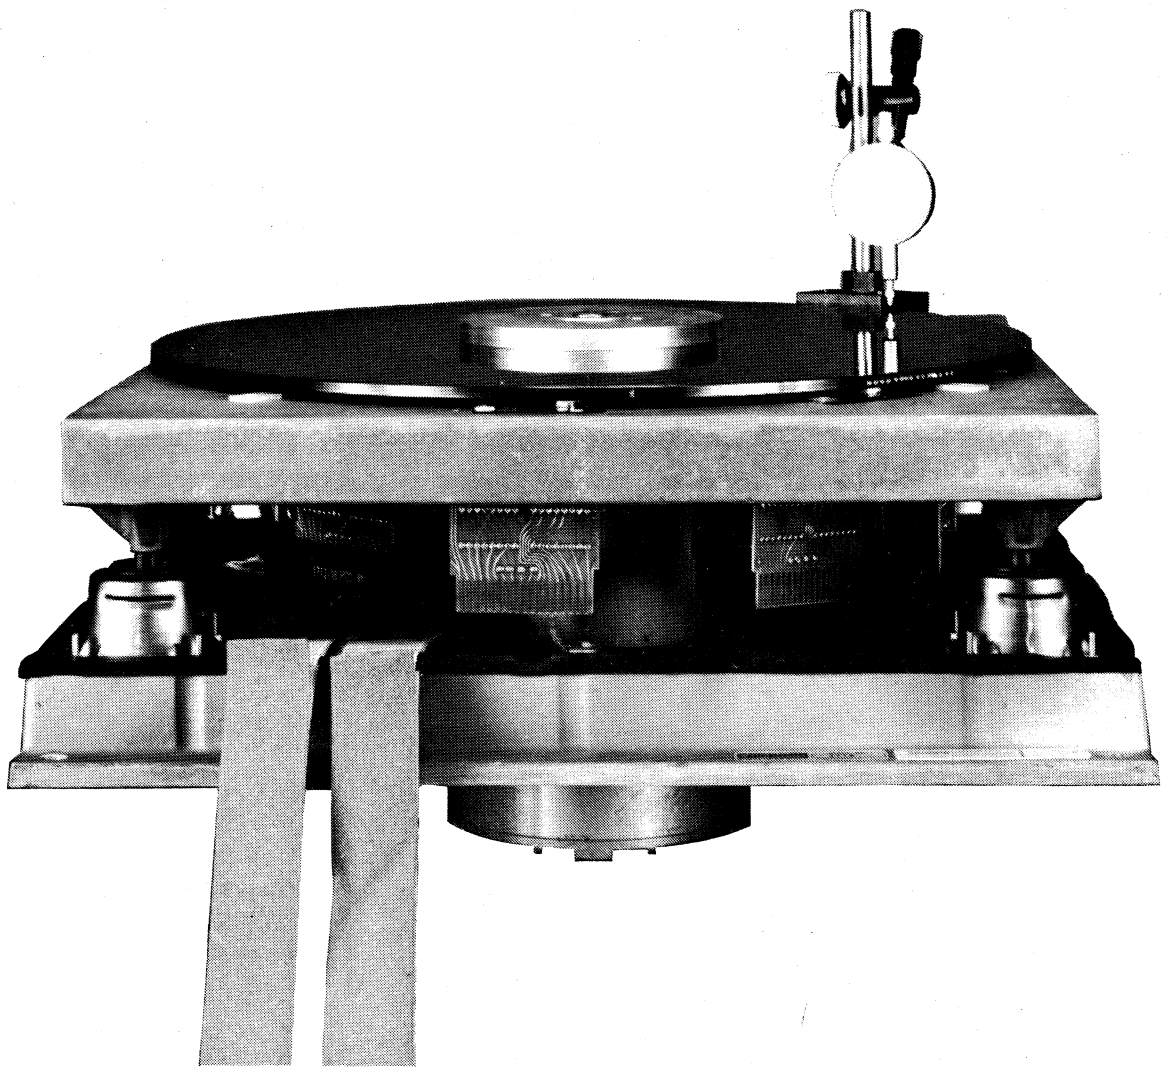

Figure 8 Placement of Fowler Gauge for Disk Runout Check
- p. The surface is now ready for the runout check (Figure 8). This will ensure that the surface is as flat as possible. A Fowler gauge can be found in the RS kit. Assemble the gauge on its stand and position on the deck close to the disk edge. While rotating the surface counter-clockwise, tighten each Allen screw slightly and alternately. Monitor the runout gauge while rotating the surface; ensure that the needle stays within 0.001 in., until each screw is reasonably tight. Remove the gauge and return it to the kit.